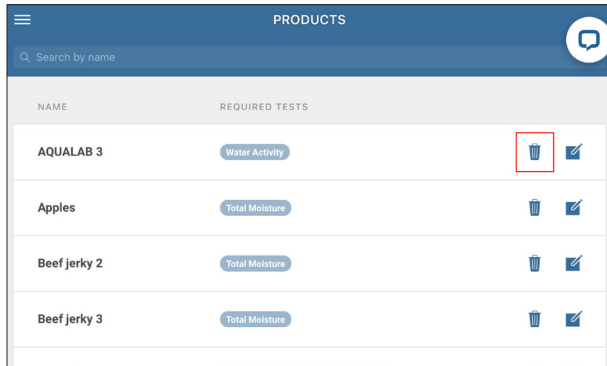

Figure 43 Products list
The Product screen will appear with the newly added/updated Product listed (Figure 43).
3. Press on the garbage can icon to remove the product (Figure 43).